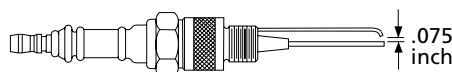

Figure 11 - Spark Plug Gap
5. Clean and regap spark plug electrodes to .075 inch (See Figure 11).